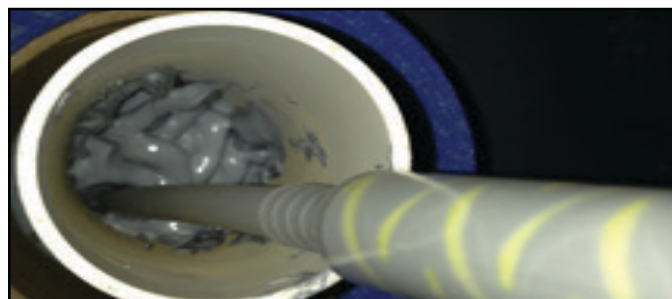

Figure 3
Pump/Motor/Nozzle Assembly (See Figures 3 & 4)
STEP 3: Apply the silicone lubricant on the groove coupling gasket. Slide the coupling/gasket on the end of either the nozzle or the pump discharge pipe. **(See Figure 3)**
STEP 3: Take pvc sleeve and fill half way with epoxy. Push wires all the way to the bottom to ensure crimps are covered with epoxy. **(See Figure 3)**